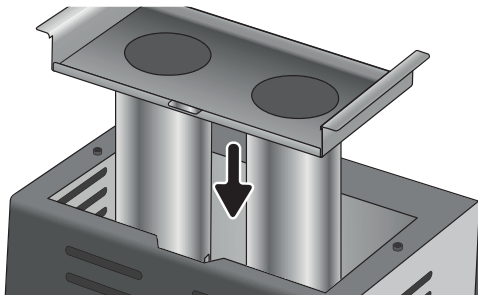

Fig. 9: Fitting the grill insert correctly
- the protrusion on the grill insert engages into the corresponding recess in the housing (fig. 9),
- the insert is pushed down all the way and correctly seated (fig. 9).